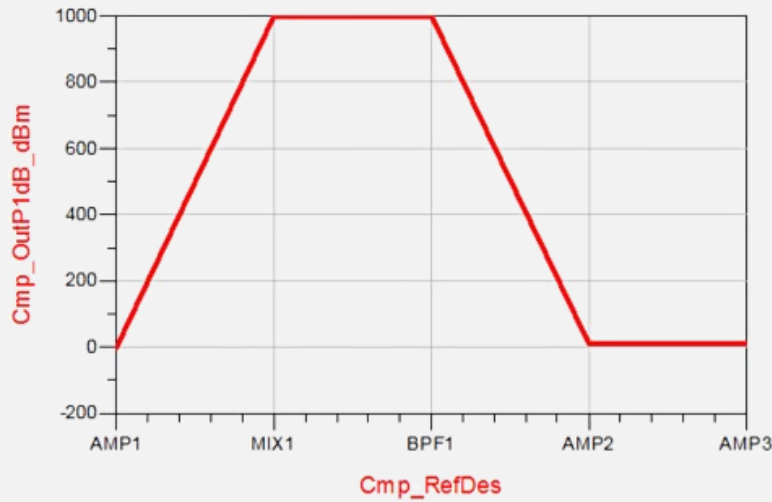

Figure 9. OutP1 spectrum
3. Following the same process as the previous step, create rectangular plots for **Cmp_OutP1dB_dBm**, **OutSOI_dBm**, and **NF_RefIn_dB**. Make sure to plot each of these parameters versus **Cmp_RefDes**. The results are shown in Figures 9 to 11.